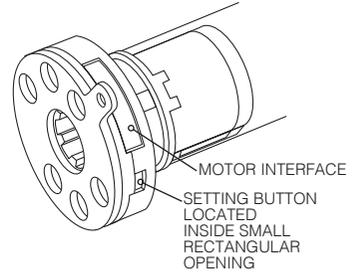

Figure 3: Wand Motor Head
- Use a pencil eraser to push firmly on the wand plug and ensure that it is fully seated in the motor interface. **[Figure 3]**
Use an opened paperclip to press the setting button on the motor crown **[Figure 3]**
1. Press & hold the Setting Button **[Figure 3]** on the motor crown until the shade jogs 3 times. This removes all programming. **NOTE:** There is a longer pause between the 2nd and 3rd jogs.
If for some reason the shade direction is reversed, press & hold the Setting Button **[Figure 3]** on the motor crown until the shade jogs 2 times.